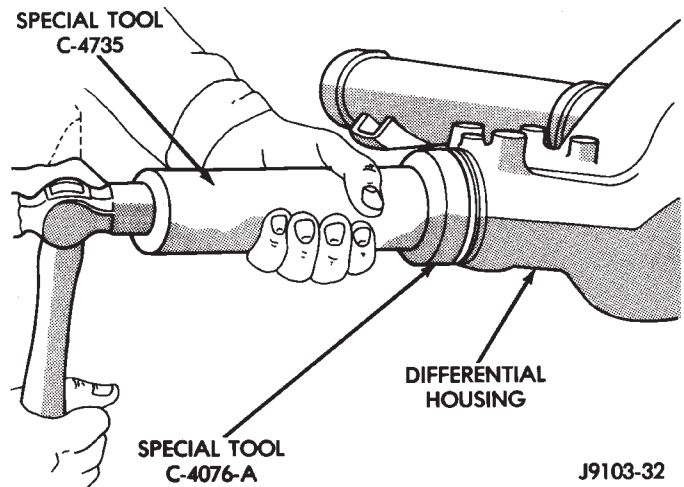

Fig. 25 Pinion Gear Seal Installation
(16) Remove yoke and tools from the pinion gear.
(17) Install the pinion seal with Seal Installer C-4076-A and Handle C-4735-1 (Fig. 25).